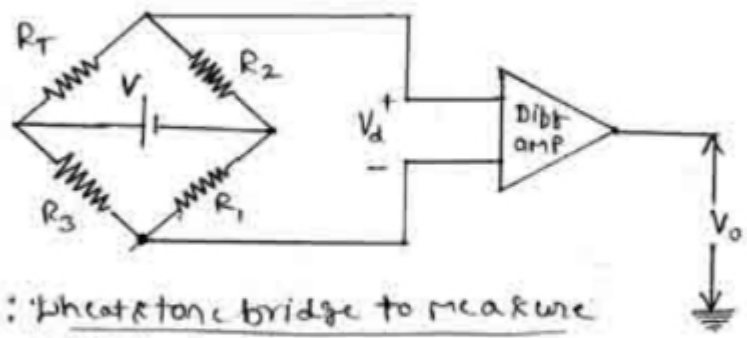

Fig 5: Wheatstone bridge to measure change in R_T
- Fig 5 shows the resistance thermometer with Wheatstone bridge.